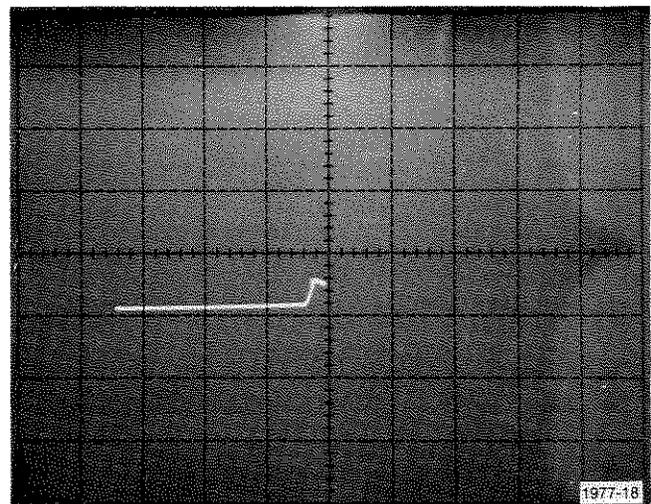

Fig. B-7. Display of - supply current.
- Repeat parts b through e of Step 5 above (see Fig. B-7).